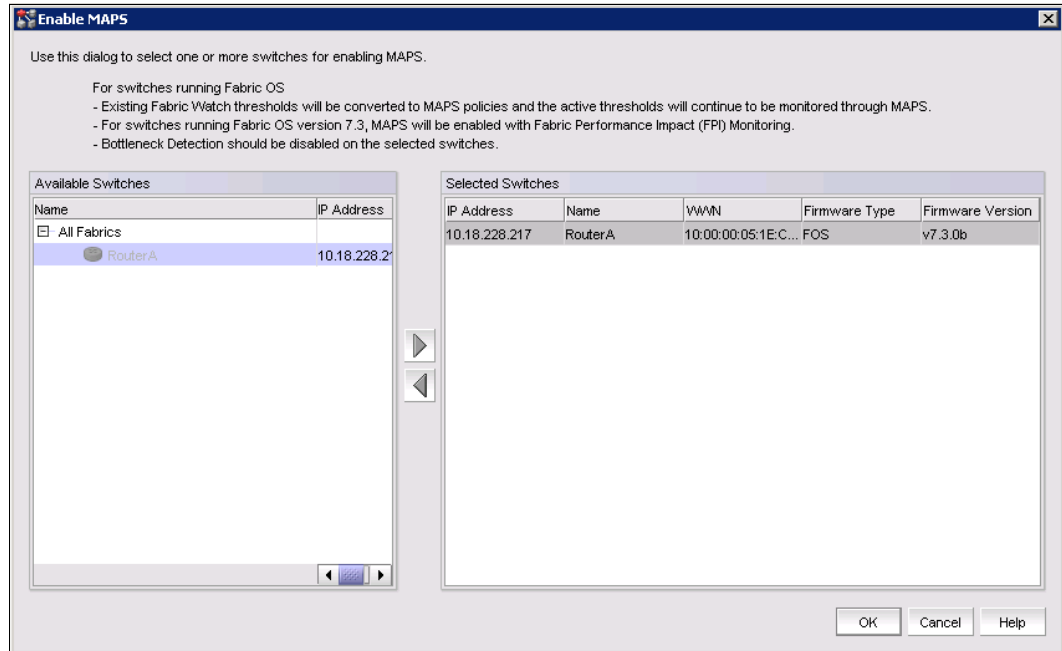

Figure 7-9 Enable MAPS window
2. Select **Monitor** → **Flow Vision** → **MAPS** → **Enable** to display the Enable MAPS window as shown in Figure 7-9.